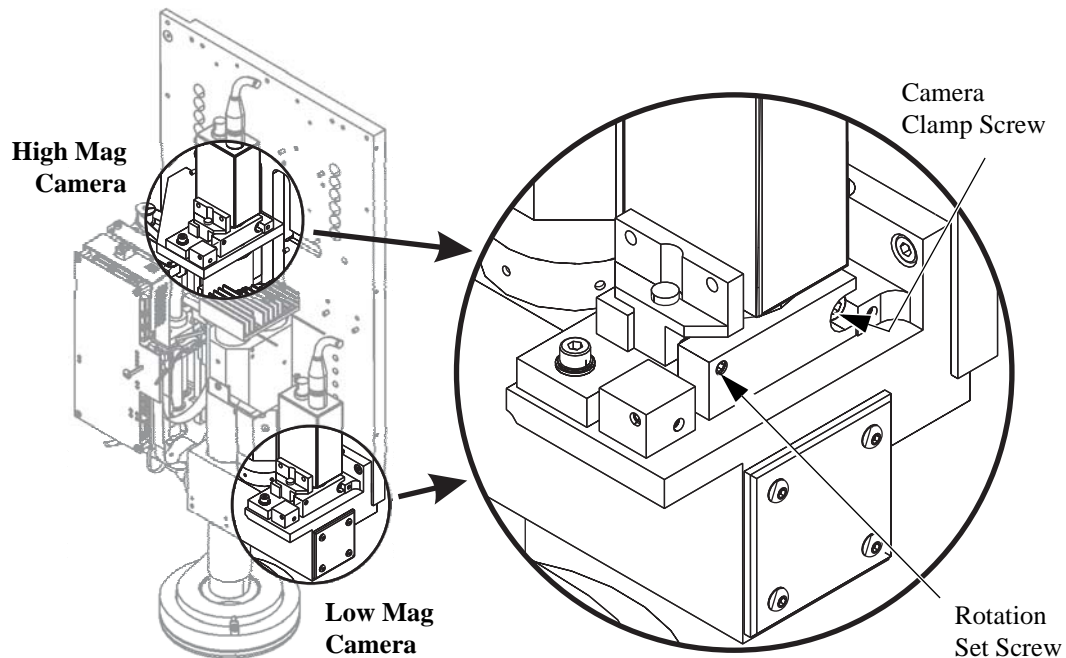

Figure 8-13 Camera Rotation Adjustment
7. Loosen the High Mag camera clamp screw and adjust the rotation set screws (see Figure 8-13) until the observed vertical movement between the Crosshair Finder and the scale is less than **0.005 mm (0.0002")** when the X-axis stage is driven over the entire length of X travel. Tighten the camera clamp when finished.